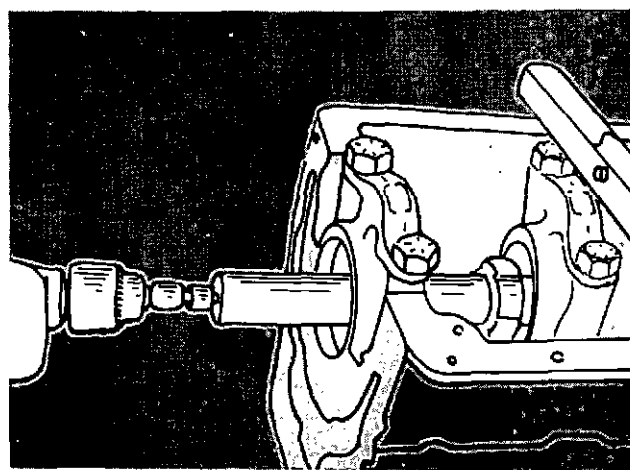

Fig. 1-44. Cut The Bore For The Main Bearing.
10. Put the swivel joint into the square drive, Fig. 1-44. Engage the mechanism of the feed assembly. Cut the bore. Make sure the boring bar is lubricated when you cut the bore.